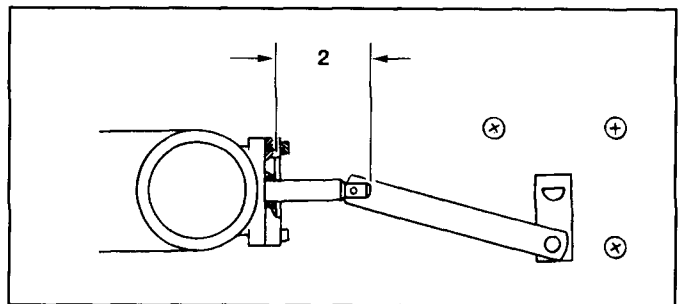

Figure 9 Brine and Slow Rinse Position
7. After the timer has moved the valve out of the **BACKWASH** position, it will move to the **BRINE/ SLOW RINSE** position (Figure 9). Watch the level of water in the brine tank, it should move down at a steady rate. A drawdown of 2 to 3 inches is sufficient for checkout.